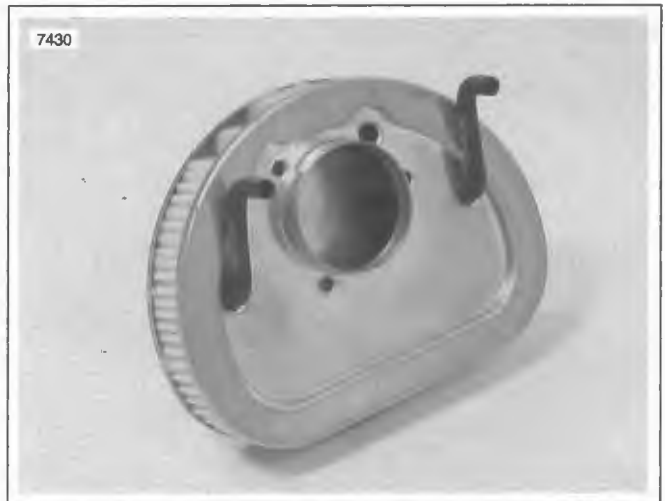

Figure 1-51. Breather Hose Holes on Backside of Filter
2. See Figure 1-51. Insert two breather tubes into the holes in back of the filter element and place the element back into position. Attach breather tubes to breather screws on backplate.